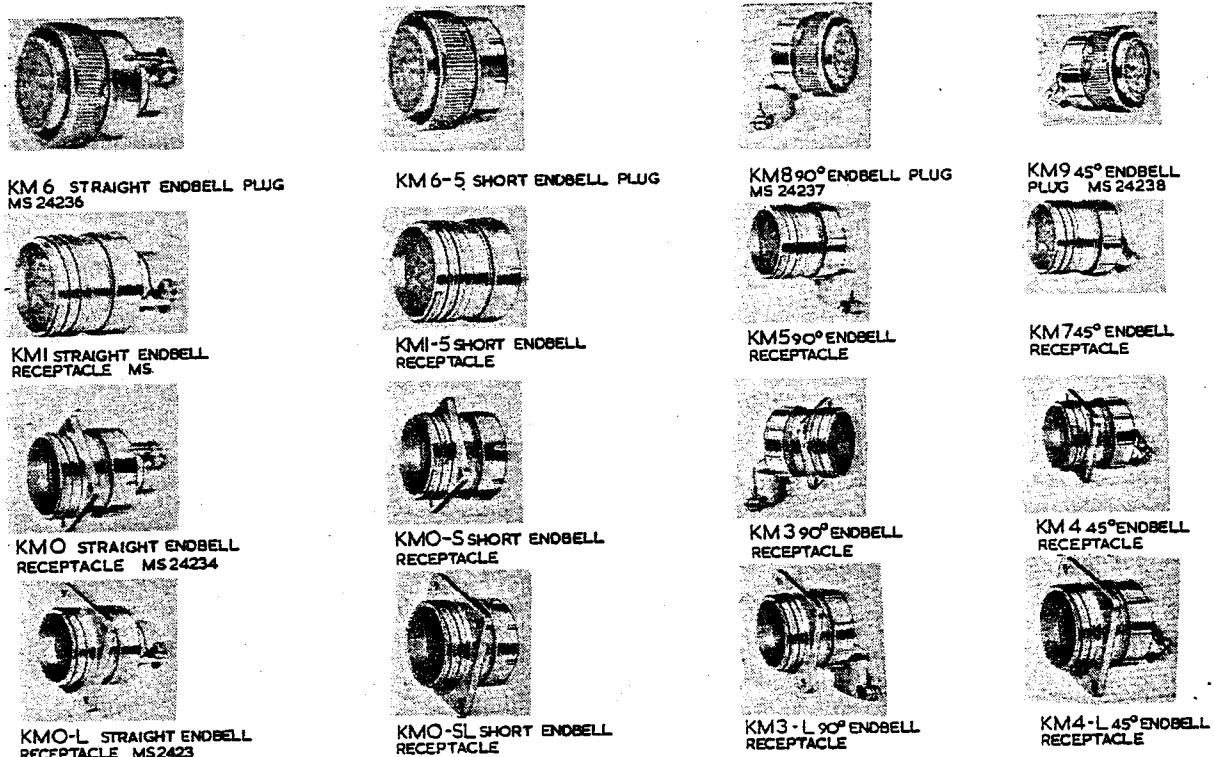

Fig. 1. Shell styles KM, Mk.2 connectors
6. The shell styles for KM, Mk.2 connectors are shown in fig.1.